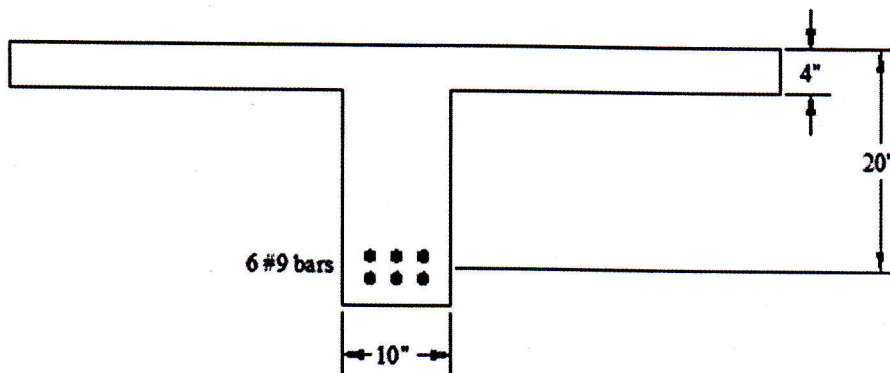

Figure 6
- 7.(a) What is the minimum length of lap for column splice as per ACI code/BNBC? (2)
- (b) Calculate the development length by USD method for 16 mm uncoated bar as top bar and 25 mm uncoated bar as bottom bar. Use:  $f'_c = 3$  ksi,  $f_y = 60$  ksi and assume appropriate value for any missing data. (3)
- (c) Determine the Nominal moment capacity ( $M_n$ ) of the T-beam section shown in Figure 6. Given, simply supported span of the beam = 10 ft and spacing of beam = 6 ft. Use  $f'_c = 3$  ksi,  $f_y = 60$  ksi. (5)